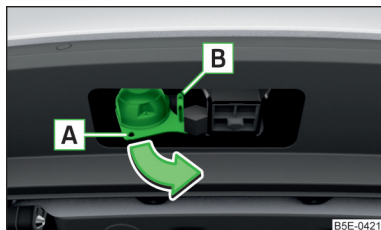

Fig. 307
- › Grip the 13-pin socket at point **A** and swing out in the direction of the arrow » Fig. 307.
- › Open the socket cap and insert the plug of the trailer (accessories) into the 13-pin socket **A** » Fig. 307. (If the trailer / accessories have a 7-pin connector, use a corresponding adapter from the ŠKODA Original Accessories).